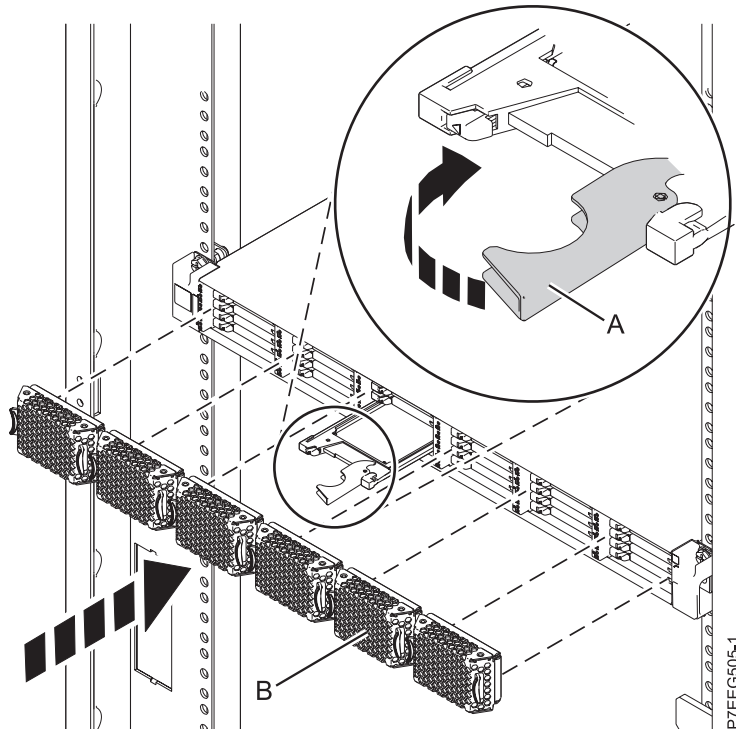

Figure 33. Replacing a solid-state drive in the ED/R1 PCIe storage enclosure.
4. When the solid-state drive identify LED flashes, slide the solid-state drive all the way into the ED/R1 PCIe storage enclosure until it is fully seated. Then rotate the handle (A) to the locked position. See Figure 33 on page 53.
5. Install the bezel (B).